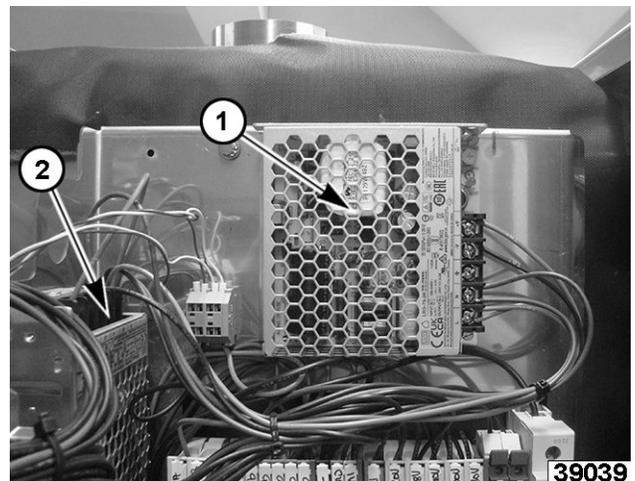

Fig. 44
- Switch Power Supply for Cavity Door Light, Solenoids, and optional Grease Gun (Ta on diagram) (1, Fig. 44).
- Switch Power Supply for I/O Board 24 DC (Tc on diagram) (2, Fig. 44).